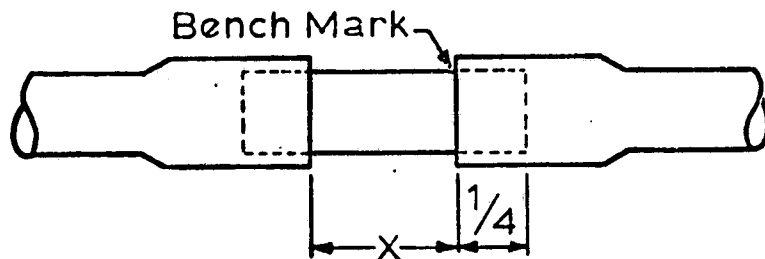

Figure 5
k) Align swedge of adjacent collector with coupling nipple and slide nipple into swedge until bench mark is in alignment with edge of swedge. See Fig. 5.